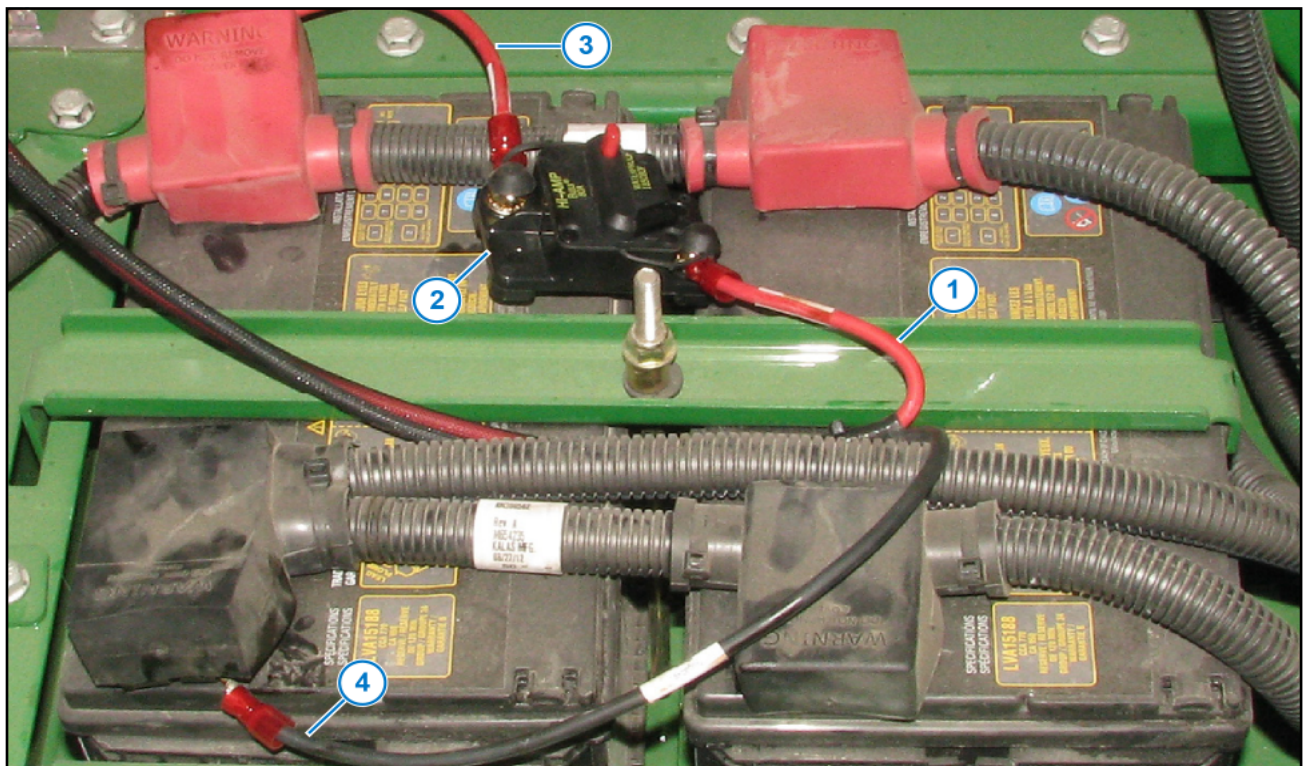

Figure 18: Circuit Breaker
5. Connect the positive (+) harness cable (Figure 18, Item 1) to the stud labeled **AUX** on the circuit breaker (Figure 18, Item 2).
Using the short length of cable from Step 2 (Figure 18, Item 3), connect one end to the stud labeled **BAT** on the circuit breaker. Connect the other end of the cable to the positive (+) battery terminal.
6. Connect the negative (-) black cable on the battery harness (Figure 18, Item 4) to the battery ground terminal.